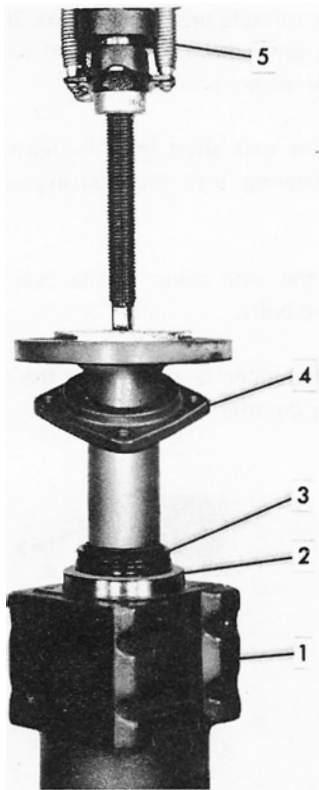

Figure 21
3. Insert the axle shaft into the housing, and press the outer bearing into the housing outer bore, Figure 21.